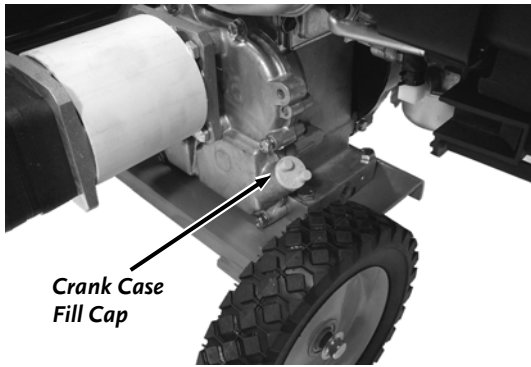

Figure 16
6. Remove the Crank Case Fill Cap (**Figure 16**) and Fill the engine's crankcase with 20 ounces (approximately 2/3 of a quart) of the engine manufacturer's recommended oil. Pour slowly and fill to the point of overflowing. You may want to use a long-neck funnel to help reach the fill opening. 10W 30 is a general purpose motor oil, however refer to the Oil Chart in the engine manual for different viscosities and types to use for different Starting temperatures.